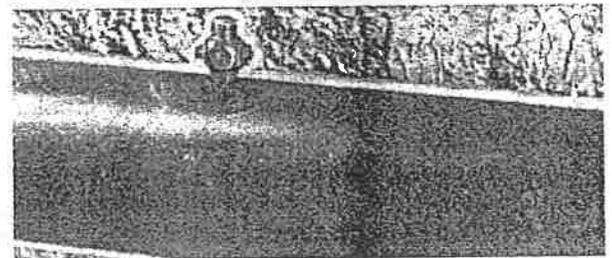

FIGURE 21
4. Tighten stop, tee, or plug to final tightness with a suitable wrench on the inlet side. **FIGURE 21.**